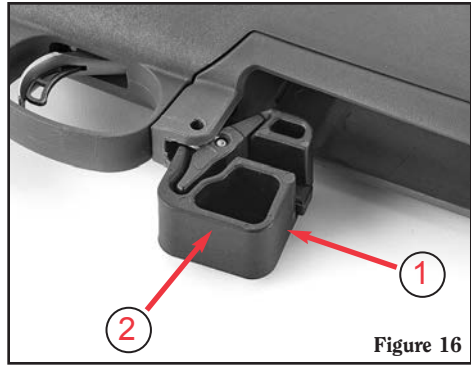

Figure 16
- f. Bring the assembly tool alongside the slot of the magazine well and push it toward the back of the rifle. (See Figure 16.)